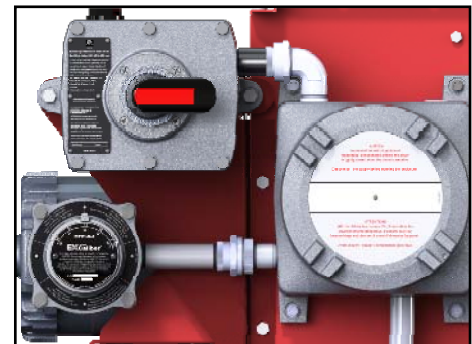

Figure 1
- Heater may be supplied with a factory installed integral room thermostat with lockable temperature dial (See Figure 1). If a **remote explosion-proof room thermostat** is used, connection is to be made via the 3/4" NPT entry (entry "B" listed in the "Enclosure Entries" table on page 4). Refer to the thermostat installation manual and the wiring diagrams on page 9 to connect the remote thermostat.
- For heaters supplied with a factory installed integral disconnect switch (See Figure 1), field wiring is as follows:
- Remove the Disconnect cover assembly from the base by removing the six (6) cover bolts. Set the cover assembly aside. **CAUTION:** Damaging the mating surfaces of the enclosure could destroy the flame path and jeopardize the integrity of the flame proof enclosure.
- Attach cover to the enclosure using the six (6) bolts. **Tighten to 150 inch-pounds ± 5 in-lbs.**